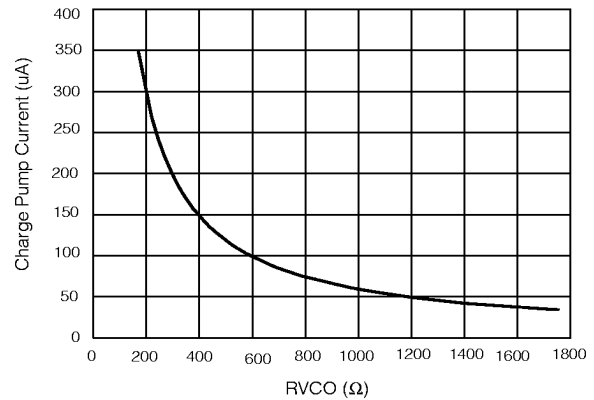

Fig. 14
- I_{CP} is the charge pump current and is a function of the RVCO resistor and is obtained from Figure 14.
The netlist for the model is given below. The .PARAM statements are used to set values for I_{CP} , K_f , N, and D. I_{CP} is determined by the RVCO resistor and is obtained from Figure 14.